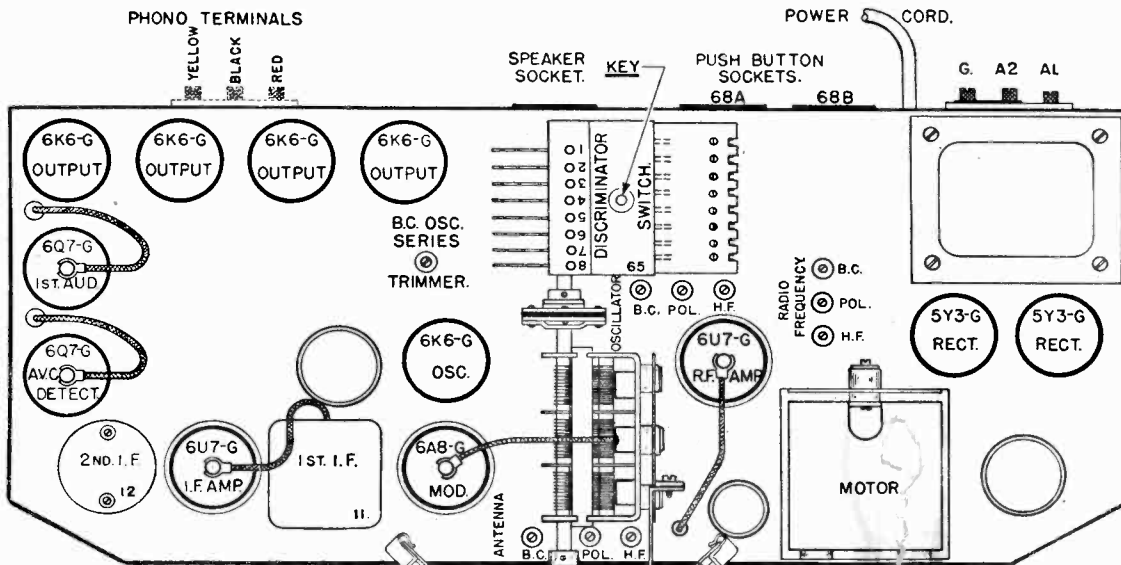

Fig. 2. Top View Model 1218
(c) To align the series trimmer (See Fig. 2), set the signal generator to the frequency indicated below (D) and then tune-in this signal with the station selector for maximum output. To obtain the best adjustment for the series trimmer, it will be necessary to rotate the station selector back and forth slightly while adjusting the trimmer for maximum output. Minor tolerance variations in series alignment at 2500 kilocycles in the Police Band and at 7000 kilocycles in the High Frequency Band may be compensated for by slight repositioning of the grid lead of the antenna coil in the Band affected.